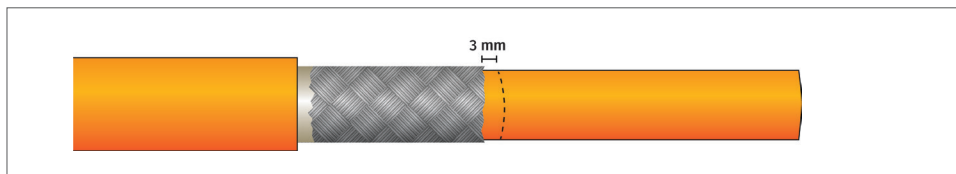

Fig. 7-7: Step 4: Marking the inner sheath
- ➡ Slide a 10 mm long piece of shrink sleeve over the HV power cable up to the marking (Fig. 7-7).